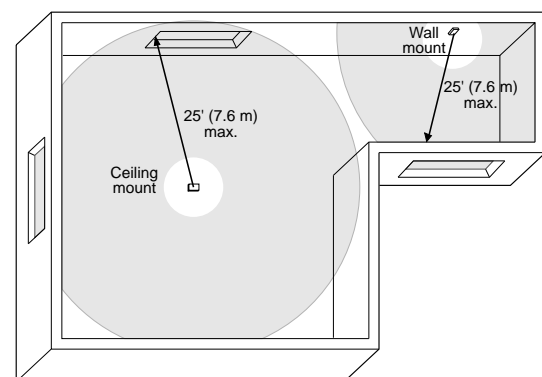

Figure 2 - Mounting Locations
The detector can be mounted on ceilings or on walls opposite or adjacent the window to be protected. See Figure 2.
- Mount the detector on a stable surface up to 25 feet (7.6 m) from the farthest point on the glass surface. See Figure 2.